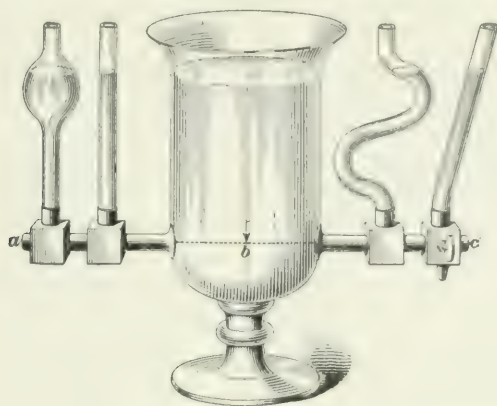

FIG. 8.
16. Liquids Influenced by Gravity.—Since the pressure on the bottom of a vessel due to the weight of the liquid is dependent only on the height of the liquid and not on the shape of the vessel, it follows that if a vessel has a number of radiating tubes (see Fig. 8) the water in each